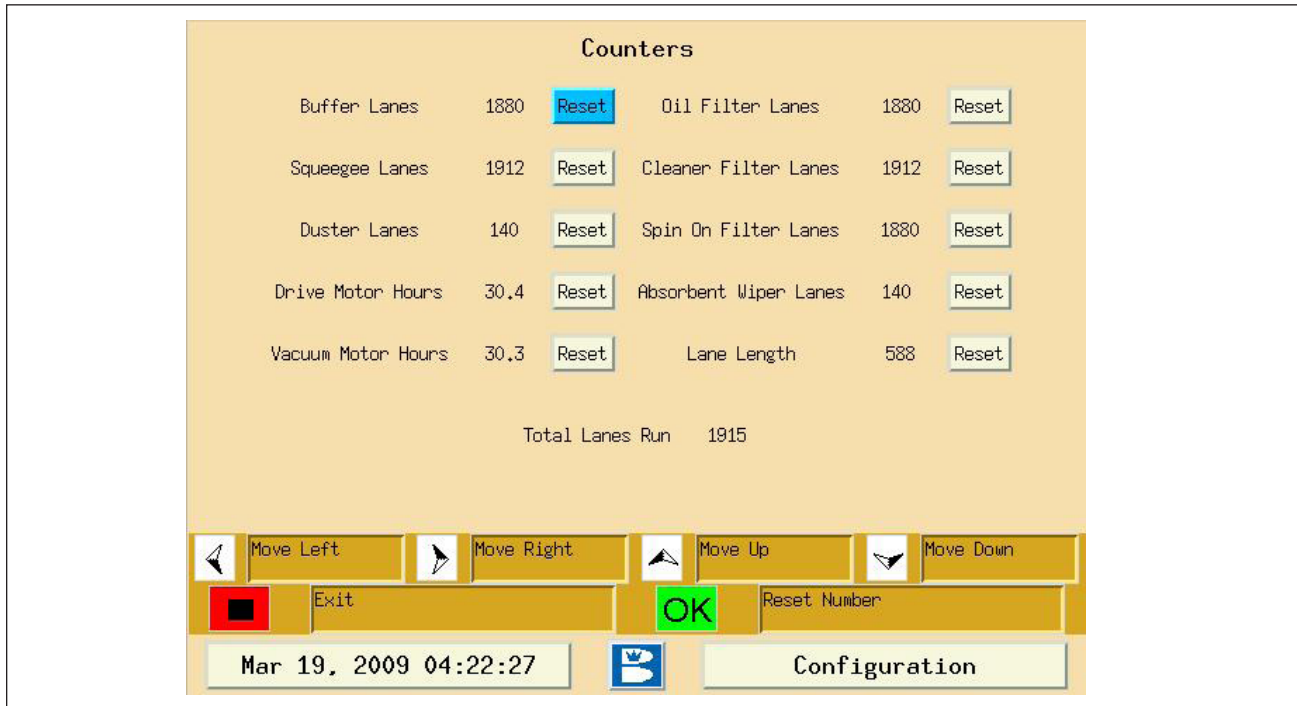

Figure 4-24. Maintenance Counters
1. Go to the Maintenance menu. Refer to Figure 4-24.